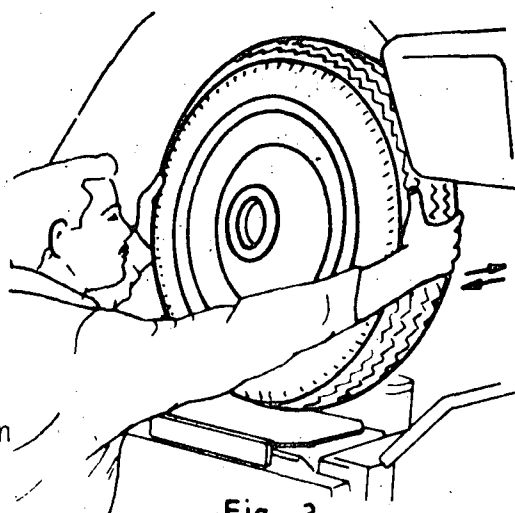

Fig. 3
c) Check the wear to the parts of the steering, by moving the wheel inwards and outwards alternately, from the outer central part of the tyre (fig. 3).